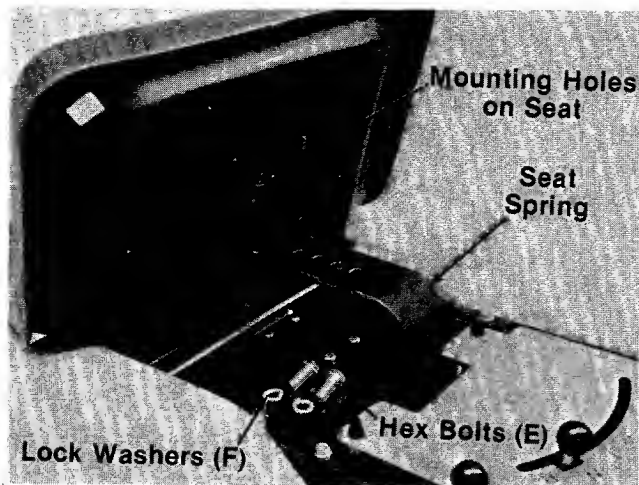

FIGURE 13.
The seat may be adjusted to three different positions. Select desired position and secure to seat spring with hex bolts (E) and lock washers (F). See figure 13.